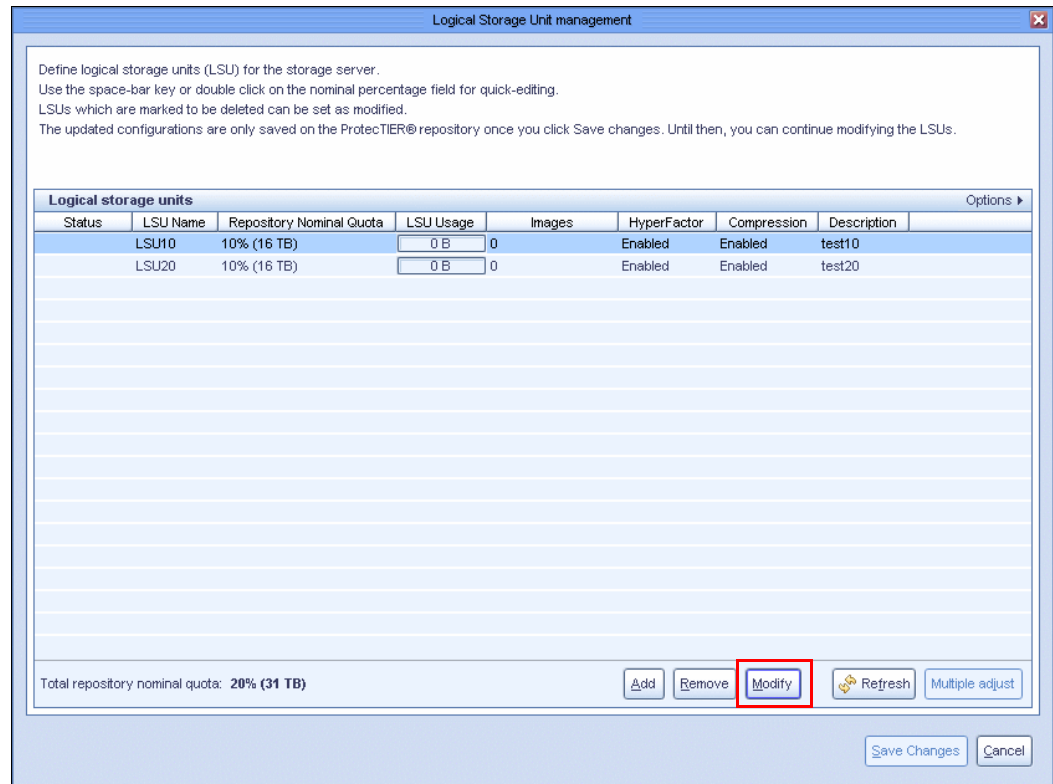

Figure 9-11 Logical Storage Unit Management window
1. From ProtecTIER Manager, select **OST** → **Logical Storage Unit management**. The Logical Storage Unit management window opens (Figure 9-11).